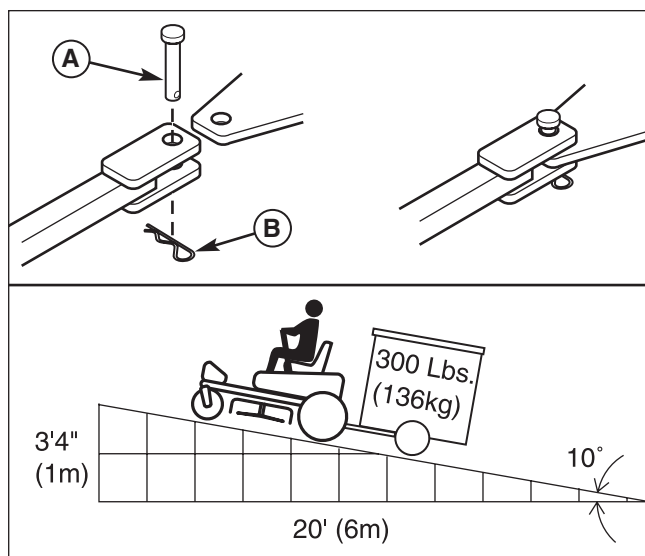

Figure 10. Trailer Weight Recommendations
The maximum weight of a towed trailer should be less than 300 lbs (138kg). Secure the trailer with a appropriately sized clevis pin (A, Figure 10) and clip (B).